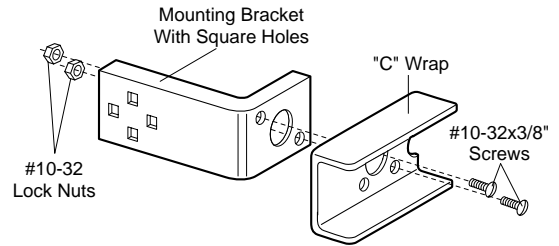

Figure 2
2. Connect each assembly to a slotted bracket, using the hardware shown in Figure 2. **Note alignment of brackets for left and right sides of the door.**
4. Use bracket mounting holes as a template to locate and drill (2) 3/16" diameter pilot holes on both sides of the garage door, 4"-6" above the floor **but not exceeding 6"** (see warning on page 16).
5. Attach bracket assemblies with 1/4"x1-1/2" lag screws as shown in Figure 2.